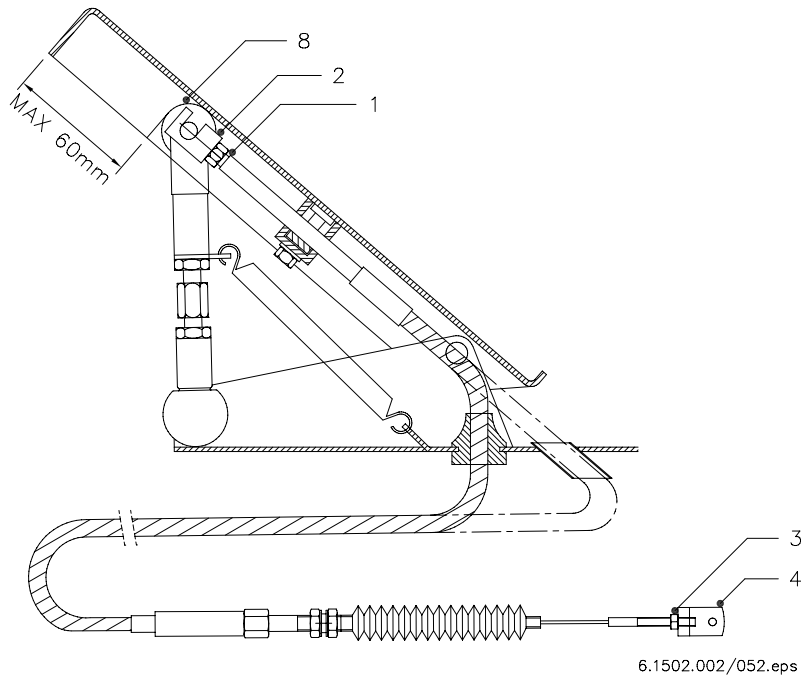

Figure 11 Replacing an inner cable
3. Check the engine idling speed adjustment. If this has been adjusted correctly by means of the adjusting screw on the engine (not visible in Figure 11), the following dimensions must be checked and, if necessary, adjusted: